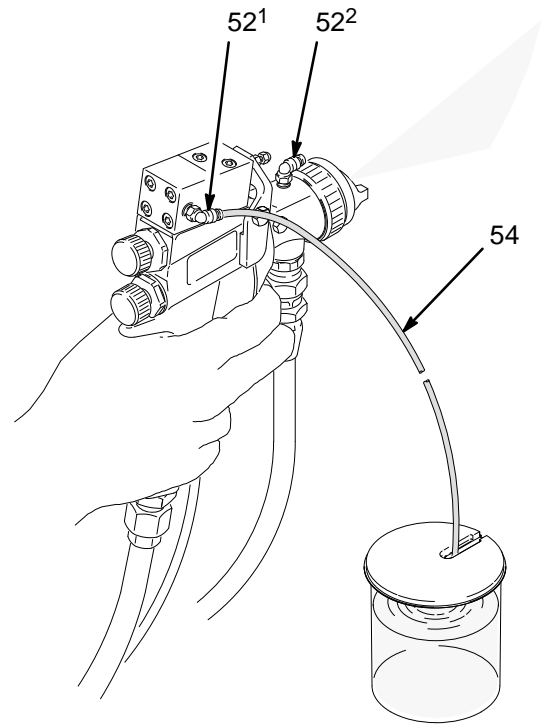

Fig. 21
- B. Cover the beaker with a loose cover to deflect any over-spray. See Fig. 21.
- D. Connect the ratio check tube (54) (supplied with the gun) to the activator valve outlet fitting (52¹) as shown in Fig. 21. Turn the front fitting (52²) toward the front of the gun.
- H. Place the ratio check tube (54) into the beaker as shown in Fig. 21.